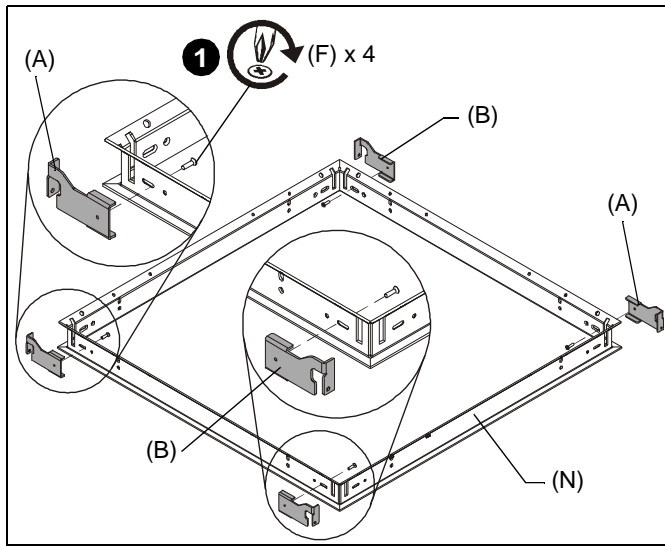

Figure 1
1. Attach track clips [2 left (A), 2 right (B)] one at each corner of the CMS490 frame (N) using one 06-32 x 1/2" Phillips flat head screw (F) on each clip. (See Figure 1)